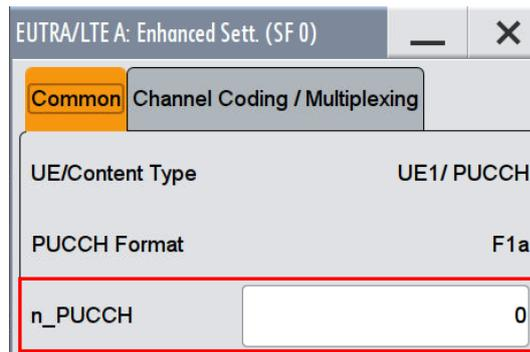

Fig. 3-86: Set the parameter n_PUCCH to 0
- Set the resource index **n_PUCCH** to 0. (Fig. 3-86)